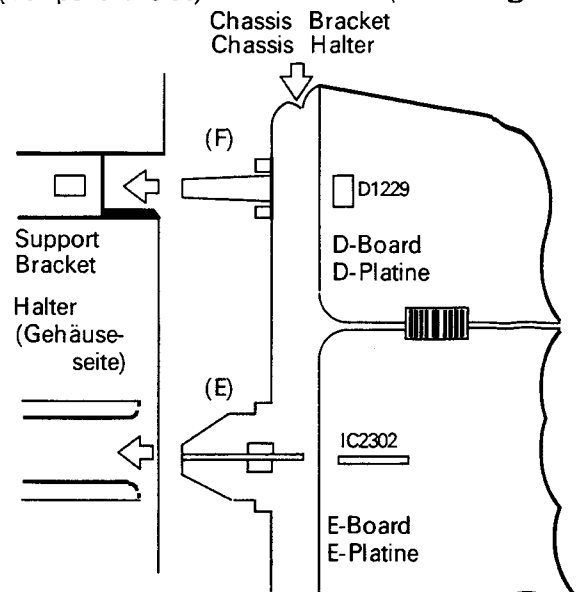

Fig.8 Abb.8
6. Slide part (E) and clip (F) of the chassis bracket, onto the support bracket as shown in Fig.8.